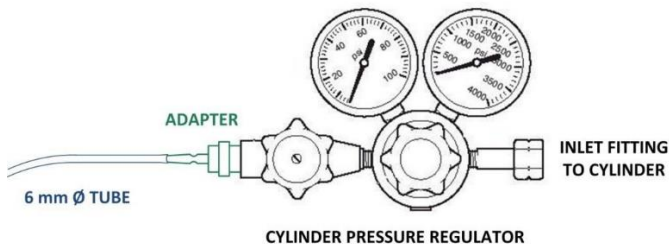

Figure 1
- 1. Gas cylinders** - Close the cylinder's main valve. Take a 6 mm external diameter tube and proceed connecting it to the cylinder pressure regulator. For a safe connection, a specific rubber holder adapter is usually required (Fig. 1). This procedure must be repeated for each gas cylinder in use.